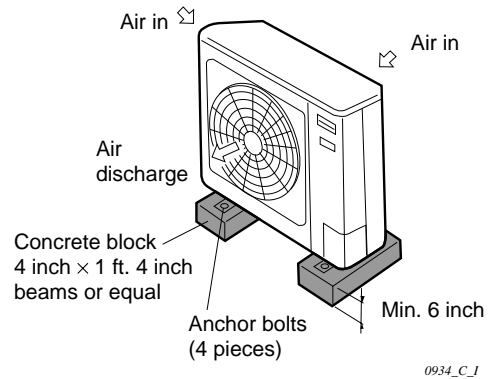
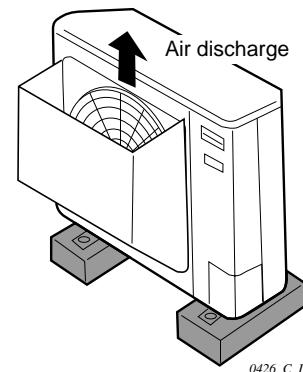

Fig. 6
Fig. 7
- provide a solid base; about 6 inch above ground level to reduce humidity and possible water damage in the unit and decrease service life. Fig. 6
Refer to Fig. 6 and Fig. 7.